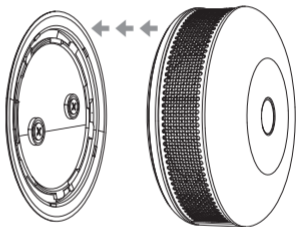

Fig. 6.
6. Attach the device to its cover (Fig. 6).